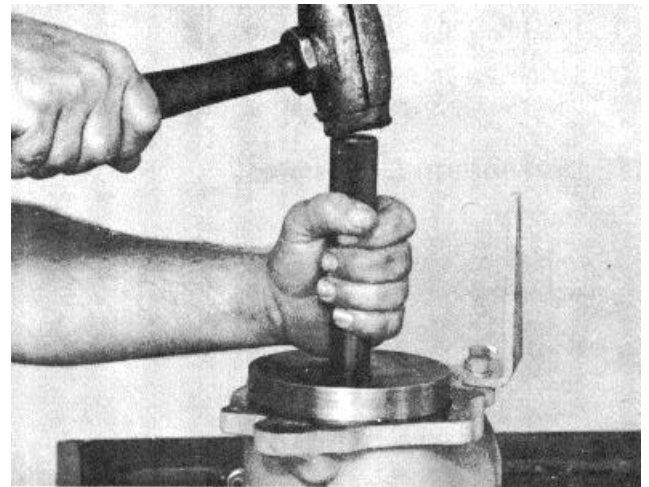

Fig. 7-25. Use The Mandrel To Install The O-Ring.
4. Push the O-ring into the housing. Use the Part No. ST-1218 or ST-1223 Cooler O-Ring Mandrel to push the O-ring into the housing. Hit the mandrel with a plastic hammer until the mandrel is against the element and housing, Fig. 7-25